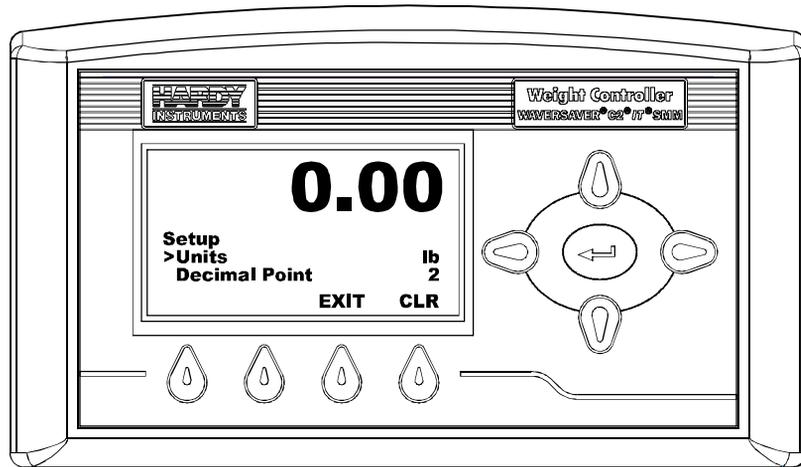

FIG. 68 SETUP MENU/SELECTING UNITS
- Step 1. If the cursor is not in front of Units, press the Down or Up Arrow button until the cursor is in front of Units. (See Fig. 68)
The number entered in Figure 68 is for illustration purposes only, yours will vary depending on your application.